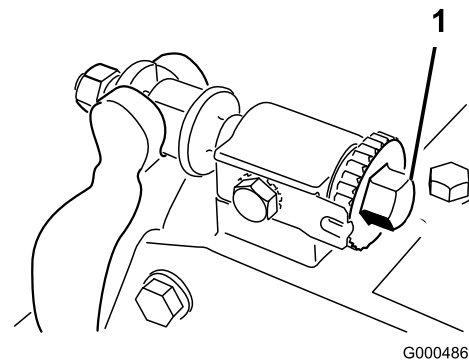
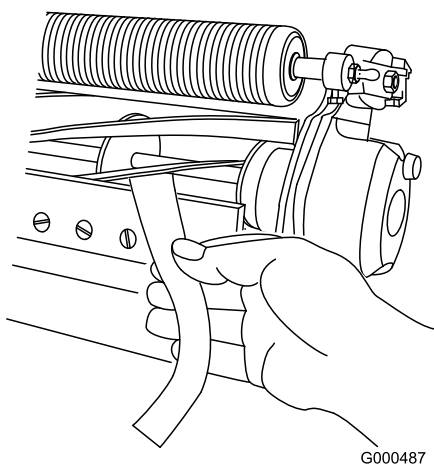

Figure 53
Figure 54
2. Make sure reel contact is removed by turning bedbar adjusting screws counterclockwise (Figure 53).
4. At one end of reel, insert a long strip of newspaper between reel and bedknife (Figure 54). While slowly rotating reel forward, turn bedbar adjusting screw clockwise (on same end of reel) (Figure 53), one click at a time, until paper is pinched lightly, when inserted
6. After adjustment is accomplished, check to see if reel can pinch paper when inserted from the front and cut paper when inserted at a right angle to the bedknife (Figure 54). It should be possible to cut paper with minimum contact between the bedknife and the reel blades. Should excessive reel drag be evident it will be either necessary to backlap or regrind the cutting unit to achieve the sharp edges needed for precision cutting (see Toro reel sharpening manual).